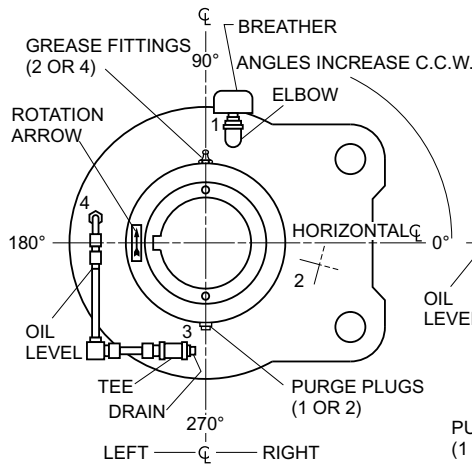

Figure 7
2. The lubrication lines, sight gauge and breather are removed for shipping. The pipe tees and elbows (see Figures 7, 8, and 9) are left in the end cover at the proper angles for simple reassembly. The tees and elbows are plugged for shipment.
3. The sight gauge/piping subassembly must be mounted in a position that allows direct viewing of oil level markings. Figures 7, 8, and 9 are examples of left-hand assembly configurations. Similar right-hand configurations are possible.
This plug may be in the backstop end cover (Figures 7, 8, and 9) or it may be in the upper pipe tee (Figure 9). Install fitting but DO NOT tighten.